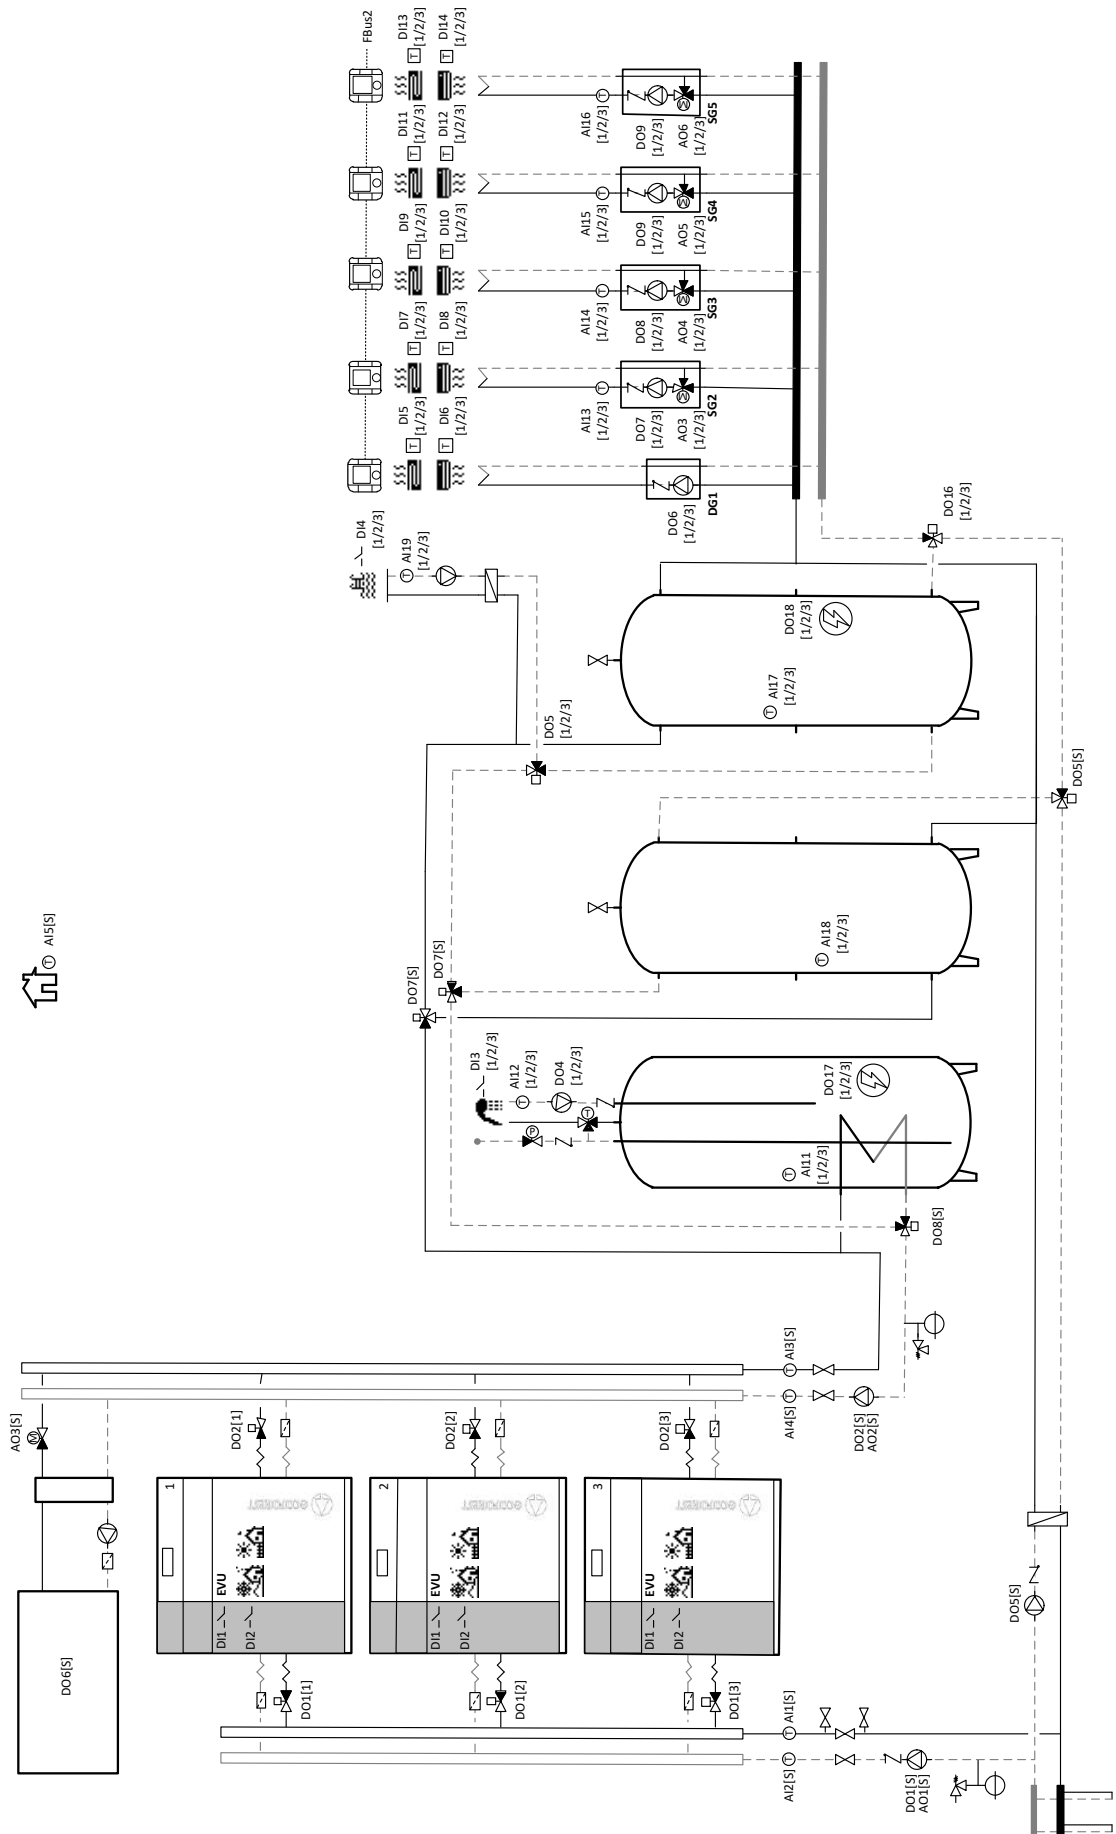

Figure 4.2. General electrical connection scheme 1. Installation for heating and cooling production with ecoGEO HP3.
Figures 4.2 and 4.3 show installation examples to indicate the electrical connections of the components.
- The schemes in figures 4.2 and 4.3 are provided only to indicate the electrical connections. The hydraulic design should be carried out by a specialist. Its use in full or in part, as well as any reproduction or transfer to third parties, is the responsibility of the installation company.